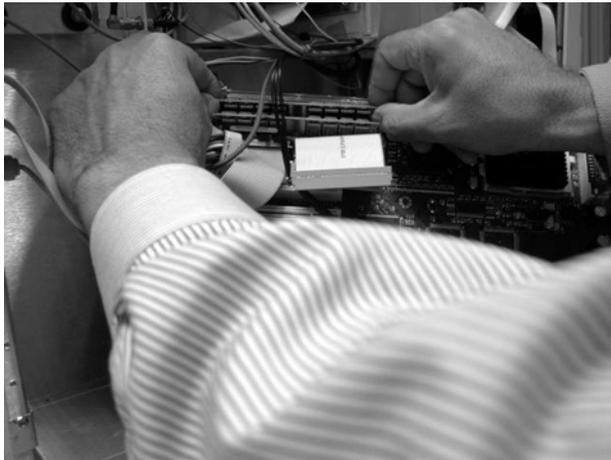

Figure 7-41. Removing the RAM
- 9 Remove the RAM from the motherboard, as shown Figure 7-41.